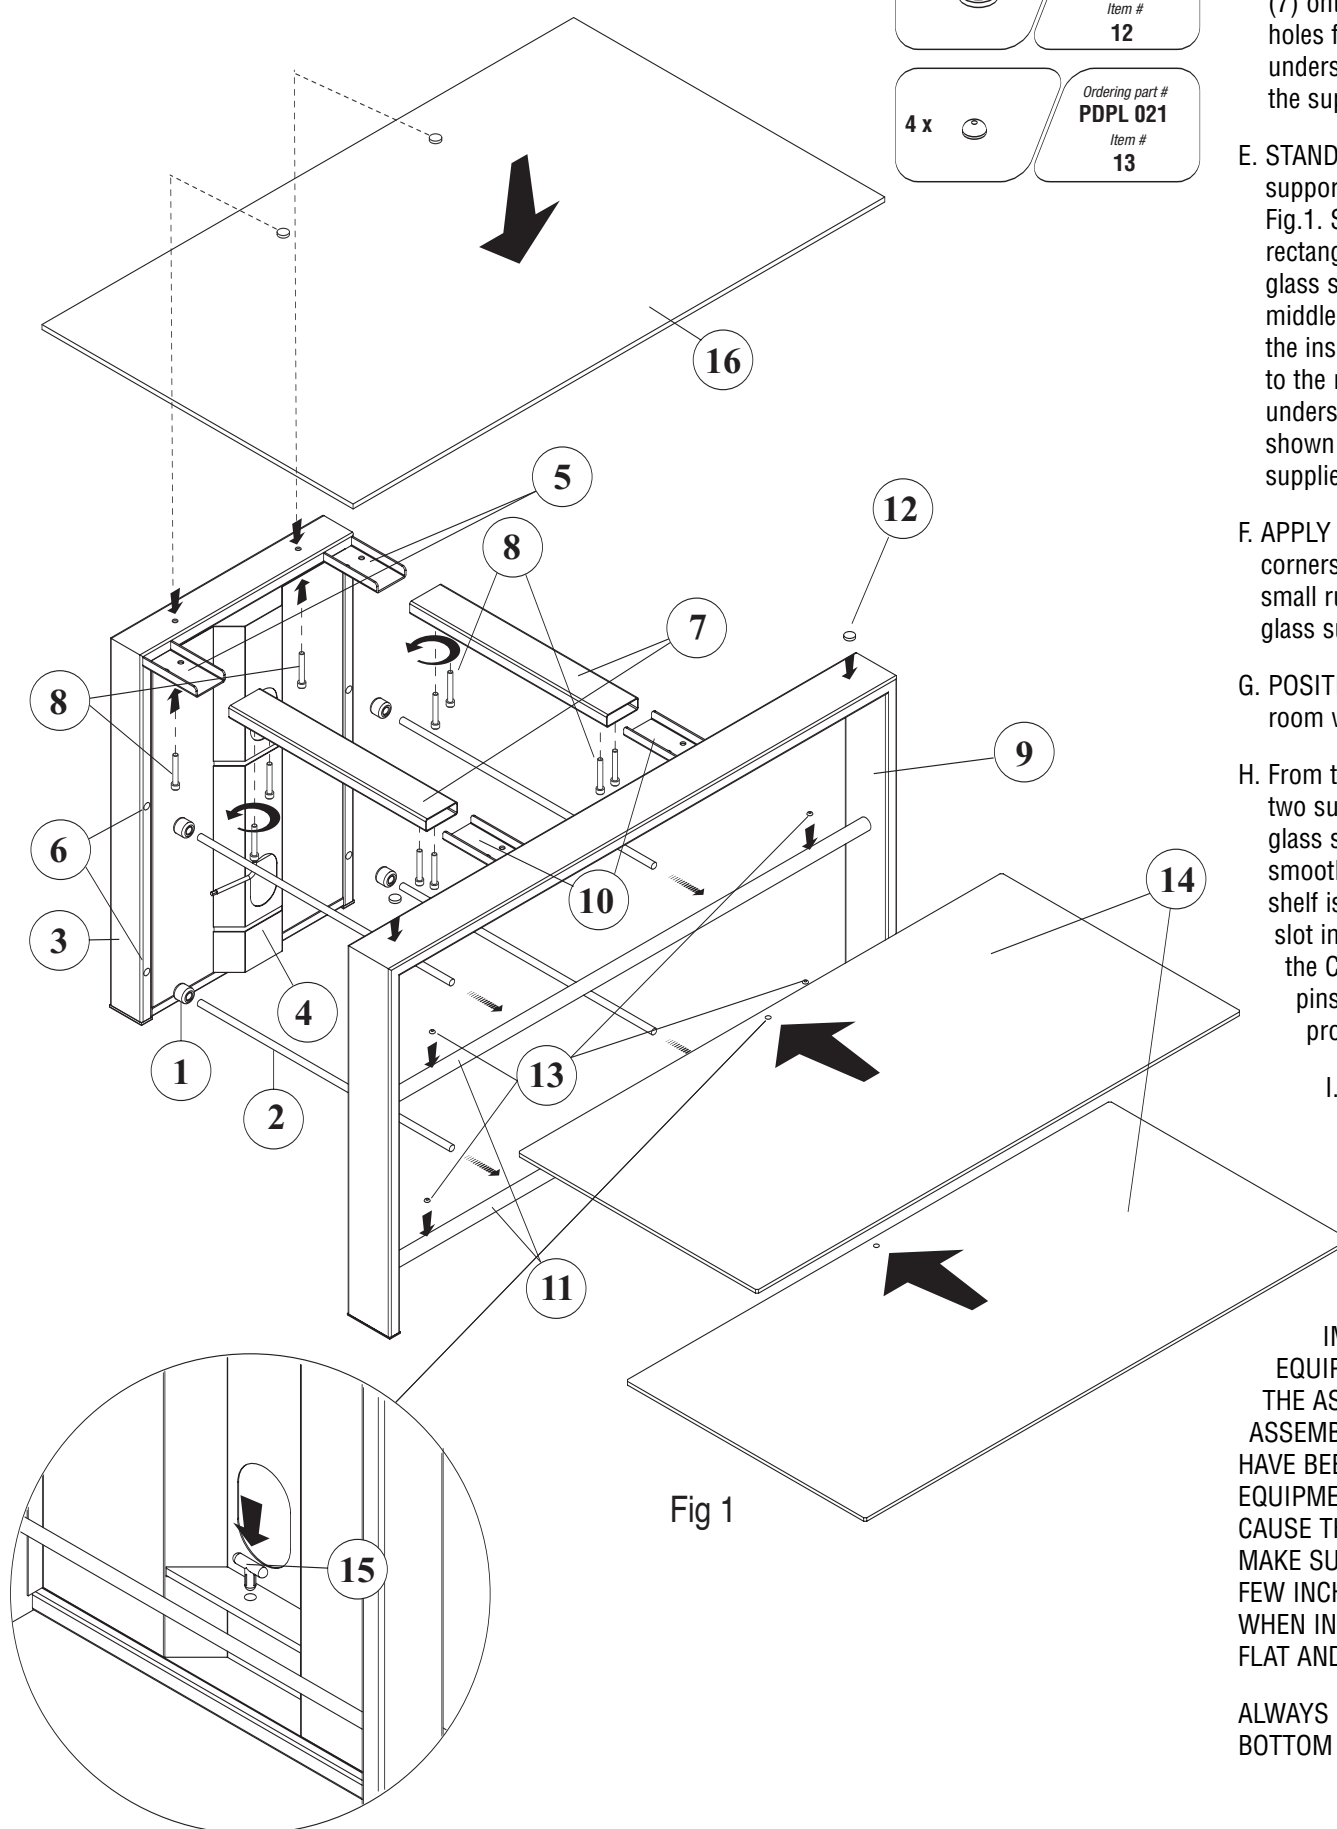

Fig 1
A. PLACE one of the four tube-shaped rubber glass pads (1) over one end of each of the four glass shelf support crossbars (2) as shown in Fig.1, leaving approximately 2" of the crossbar support ends exposed .
B. STAND the rear frame (3) upright with the glass shelf slots of the CMS® (Cable Management System) post (4) facing forward, and the the two frame supports (5) positioned at the top of the frame and facing the center of the unit as shown in Fig.1.
C. INSERT the end with the rubber glass pads on each of the four glass shelf support crossbars (2) into the pre-drilled holes (6) located on the left and right front uprights of the rear frame front (3) as shown in Fig. 1.
D. SLIDE each of the two rectangular connecting crossbars (7) onto the two frame supports (5) with the predrilled holes facing downwards, and secure each from the underside with two of the eight larger screws (8) using the supplied Allen wrench.
E. STAND the front frame (9) upright with the two front frame supports (10) facing the center of the unit as shown in Fig.1. SLIDE the front frame supports (10) into the two rectangular connecting crossbars (7) and INSERT the four glass support crossbars (2) into the predrilled holes on middle and bottom glass support crossbars (11) located on the inside of the front frame (9). SECURE the front frame to the rectangular connecting crossbars (7) from the underside, with the four remaining larger screws (8) as shown in Fig.1. TIGHTEN all 8 screws securely using the supplied Allen wrench.
F. APPLY the two large flat rubber glass pads (12) to the top corners of the front frame structure (9). APPLY the four small rubber glass pads (13) onto the middle and bottom glass support crossbars (11) as shown in Fig.1.
I. CAREFULLY position and place the top glass shelf (16) onto frame as shown in Fig. 1. with the smooth surface facing upwards and the two silver discs placed into the holes on the top of the CMS® post (4). SECURE the top glass, from below the rear of the CMS® post using two screws (8).